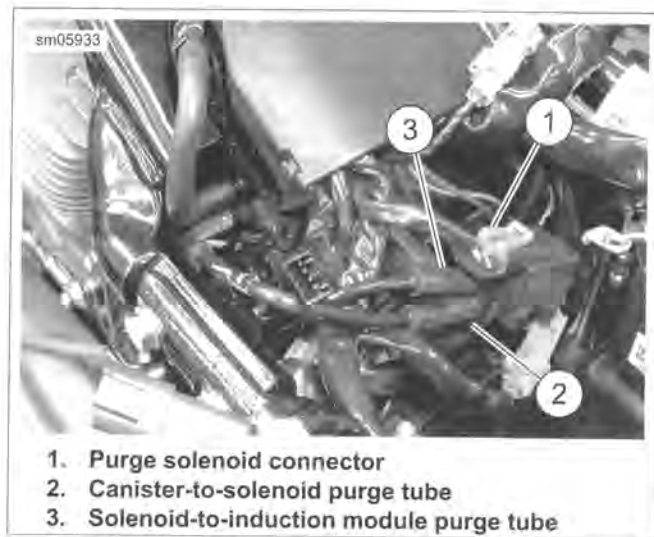

Figure 4-48. Purge Solenoid
3. See Figure 4-48. Remove purge solenoid connector (1).
1. See Figure 4-48. Install purge tube to induction module (3) onto fitting of purge solenoid closest to the connector cavity.
2. Install purge tube from charcoal canister (2) onto purge solenoid.
3. Install purge solenoid connector (1).